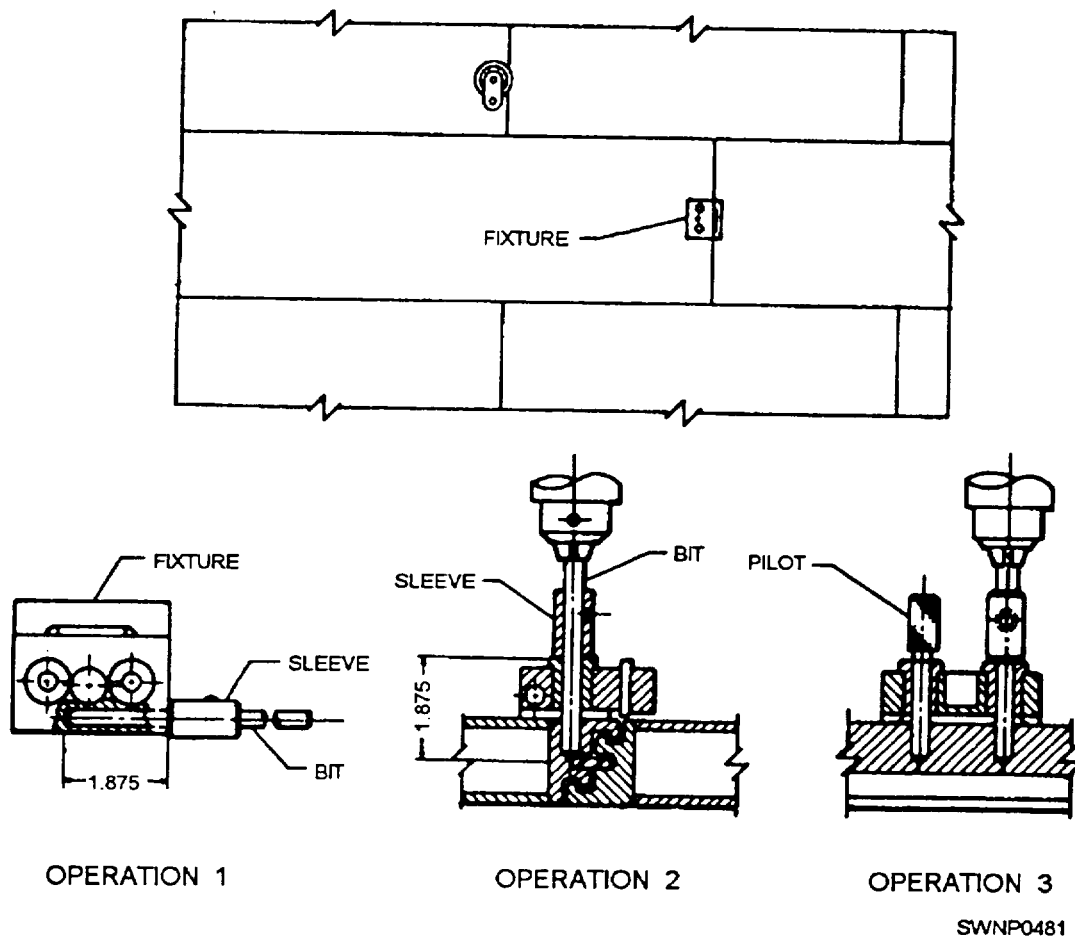

Figure 11-29.—Drilling jig for installing tiedowns
1. Secure the sleeve, 412131-1, to the 5/16-inch drill with the setscrew, using the drill fixture, 509044-1, as shown in operation 1, figure 11-29. Orient the sleeve to ensure seating of the setscrew on the body diameter of the drill.
2. Position the drill fixture, as shown in operation 2 (fig. 11-29), and drill one hole, as shown. Proper depth is obtained when the sleeve contacts the bushing.
3. Insert the pilot, 4121301, through the drill bushing into the drilled hole, and drill the second hole, as shown in operation 3 (fig. 11-29).